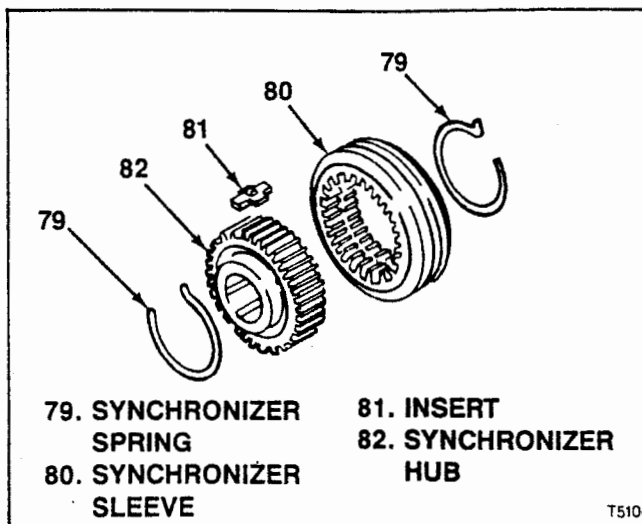

Figure 3-14. T5 WC 3rd-4th Synchronizer Assembly
3-20. DISASSEMBLY OF T5 WC 3RD-4TH SYNCHRONIZER ASSEMBLY. Mark synchronizer sleeve (80) and hub (82) so that clutch teeth and faces can be assembled exactly as they were originally. Sleeve and hub are a matched set, selected at manufacture. Disassemble as follows (see figure 3-14):
- Unhook and remove springs (79).
- Slide sleeve (80) from hub (82), freeing inserts (81).